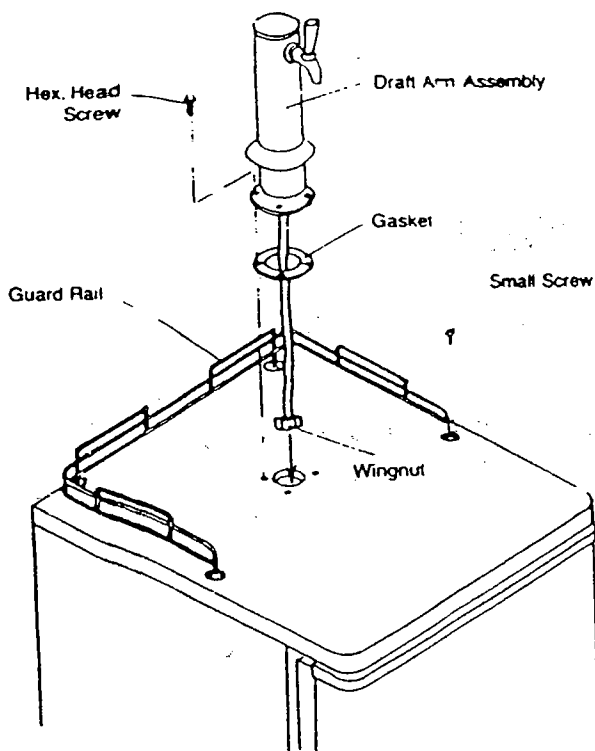

Fig 1.
3. Install Draft Arm Assembly (See Fig. 1).
4. Install Guard Rail (See Fig. 1).